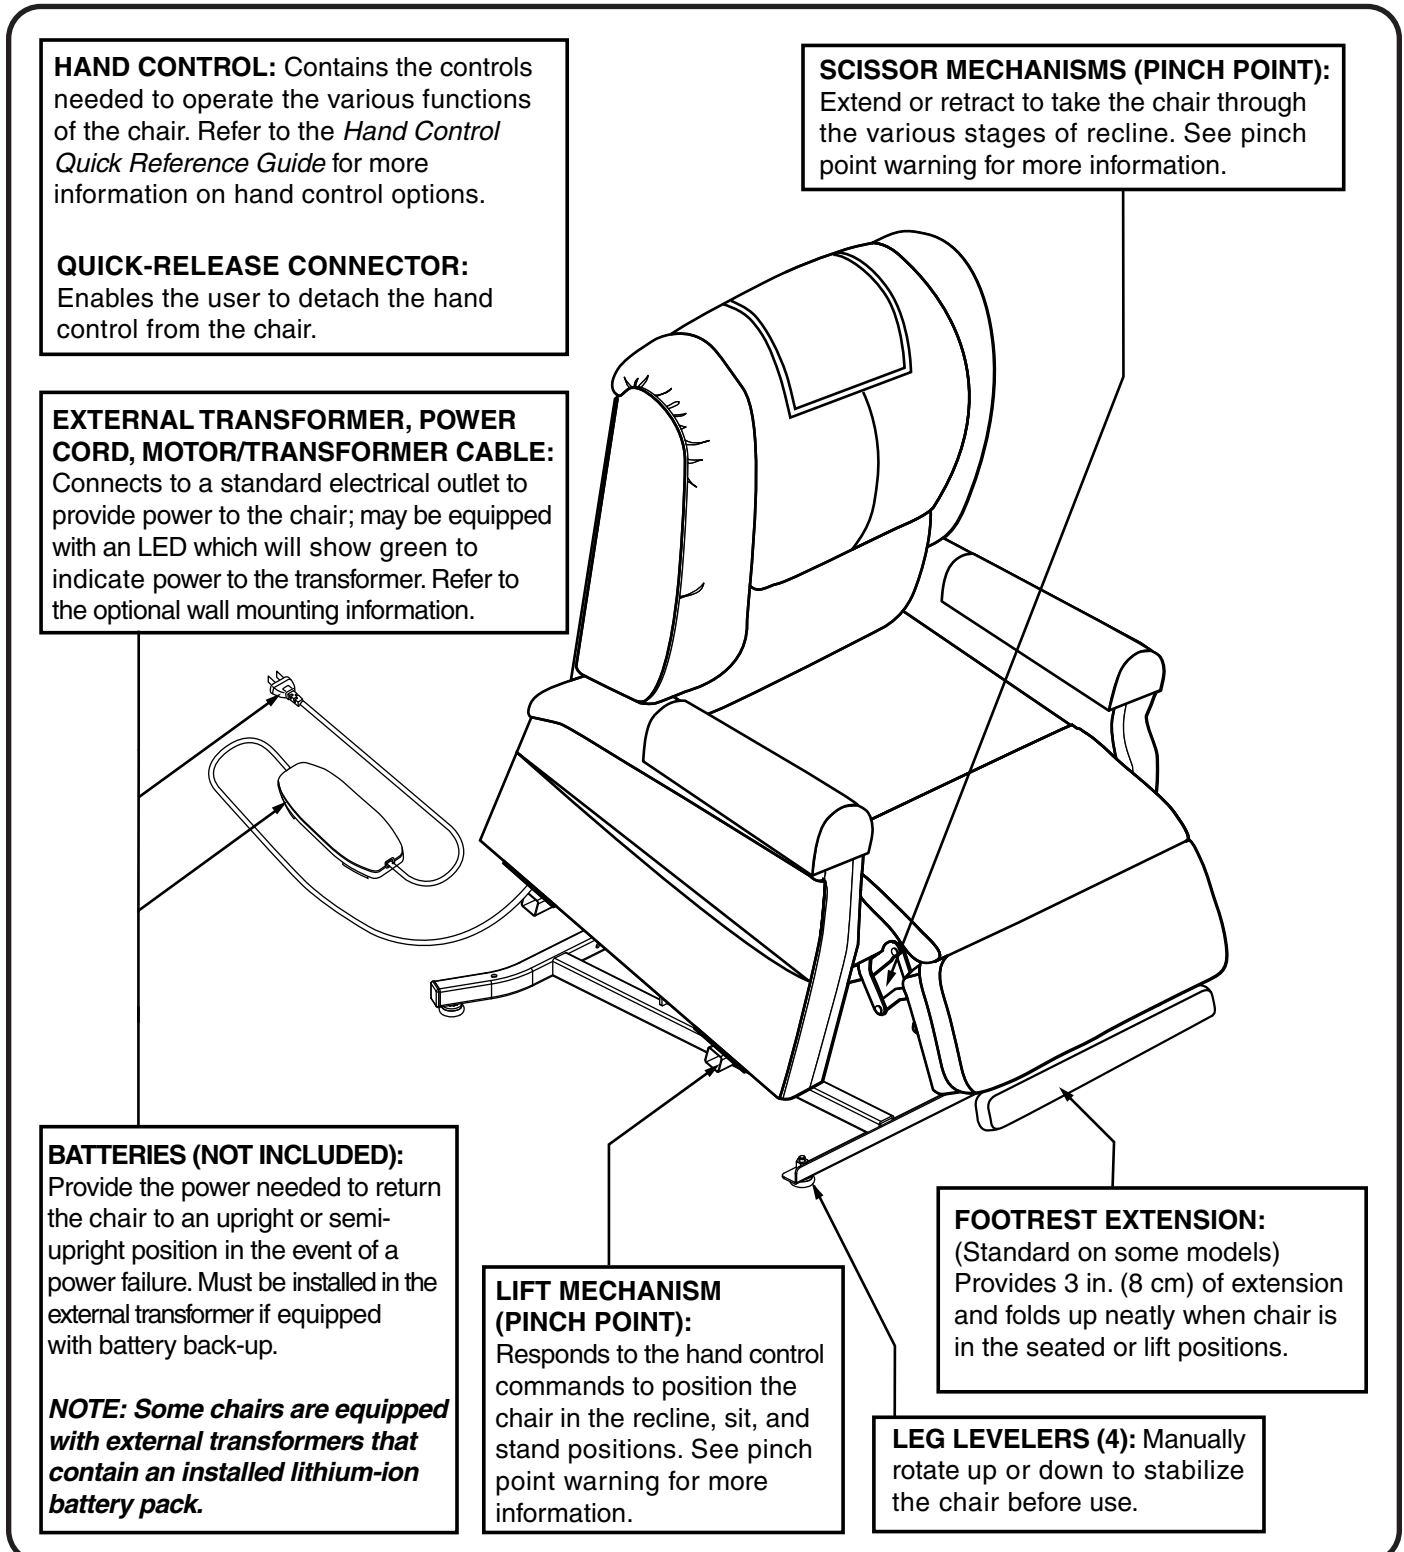

Figure 3.1 Chair Main Components
The scissor and lift mechanisms are labeled as pinch/crush point hazards on your chair. Keep clear of these areas and make sure the path of motion is unobstructed. See **figure 3.1** for pinch/crush point locations.
Chairs are equipped with several frame and electrical components. Typically, frame (or body) components include a removable back, chaise pad\*, seat, footrest, leg levelers, a lift frame, and scissor mechanisms. The electrical components include the external transformer with connection cables, hand control, motor, and batteries‡ (not included). Refer to **figure 3.1** and note that the illustrations and options listed may not reflect the type of chair that you own.
- Adjust the leg levelers to stabilize the chair (**fig. 3.1**).